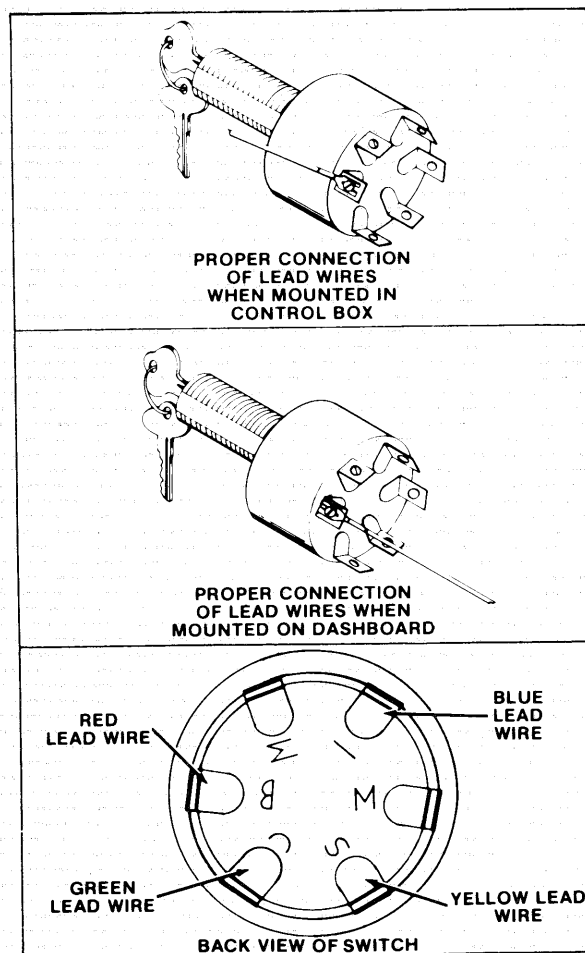

Figure 6—Connections of Lead Wire to Switch
- A. Connect lead wires to ignition switch as shown in figure 6.